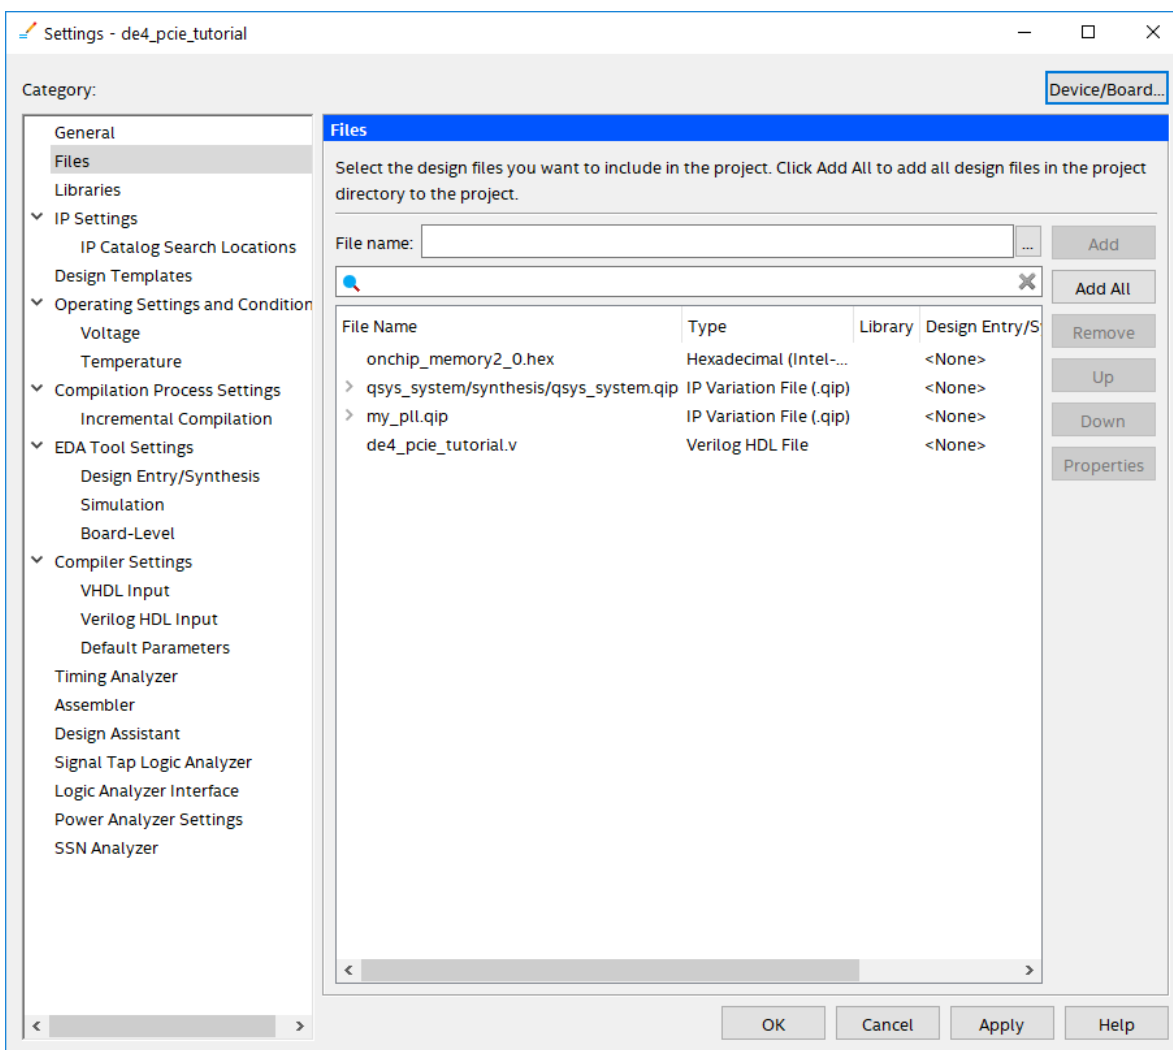

Figure 19. Files settings for the Quartus Project
2. Add the *de4_pcie_tutorial.v* file, the *qsys_system.qip* file, the *my_pll.qip* file, and the *onchip_memory2_0.hex* file to your Quartus Prime project as shown in Figure 19. The *onchip_memory2_0.hex* file is used to initialize the on-chip memory and can be found in the directory *design_files*, which can be downloaded along with this tutorial from the Intel FPGA University Program website. It contains the executable file of the demo application for the Nios II processor, which will be used in the next section.